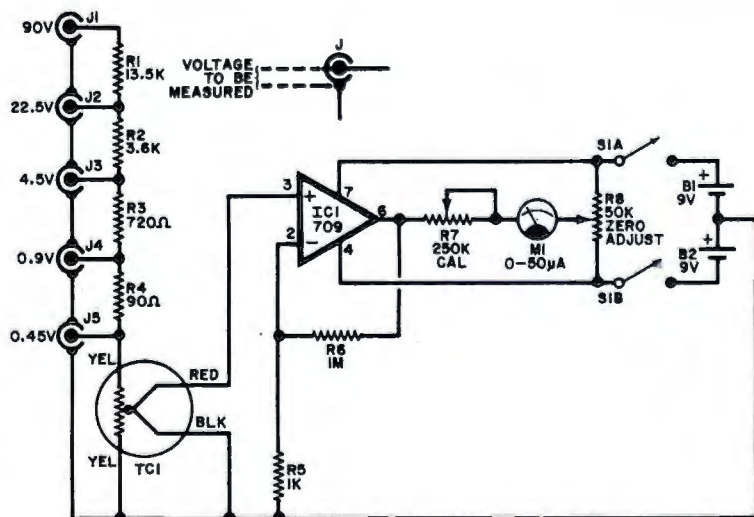

Fig. 2. Schematic of the voltmeter. Select and combine resistors to obtain proper values as given in Parts List.
**How It Works.** As shown in Fig. 2,  $R_1$  through  $R_4$  make up a voltage divider, with values selected to limit the voltage across  $TC_1$ , the thermal converter, to 0.45 V. The dc output of  $TC_1$  is connected to the noninverting input of operational amplifier  $IC_1$ , which is connected as a dc amplifier. Resistors  $R_5$  and  $R_6$  determine the gain of  $IC_1$ , whose output drives  $M_1$  a 50- $\mu$ A meter. Potentiometer  $R_7$  is used to calibrate the circuit and the meter, while  $R_8$  is adjusted to set the zero point of the meter movement.